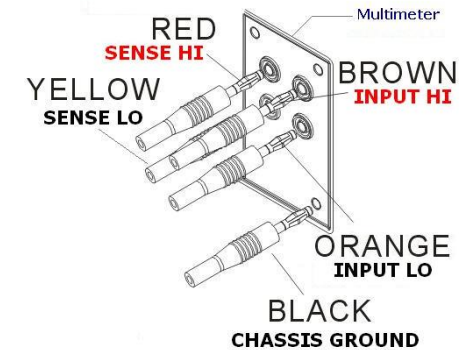

Figure-1
- Connect M3500-OPT07 4 Wired Test Leads to the input terminal of the power-on multimeter device as shown as Figure-1.